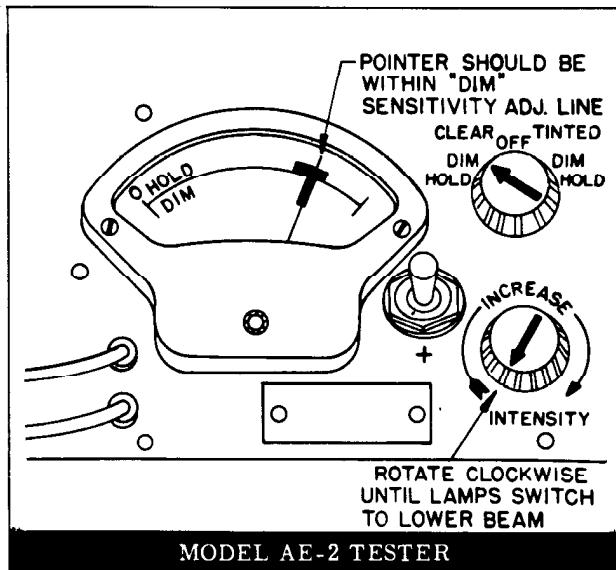

Fig. 13-102 Dim Sensitivity Test
1. Rotate tester Intensity Rheostat completely counterclockwise. (Fig. 13-102)